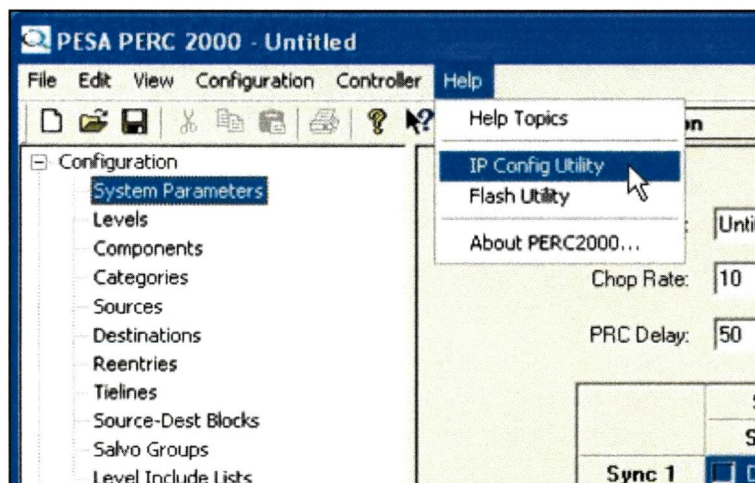

Figure 29. IP Config Utility Command Location
- ☐ 5. Click on the Help menu in the Windows™ menu bar and select the “IP Config Utility” option from the menu as shown in Figure 29.
- ☐ 10. Click on the Help menu in the Windows™ menu bar and select the “IP Config Utility” option from the menu as shown in Figure 29.